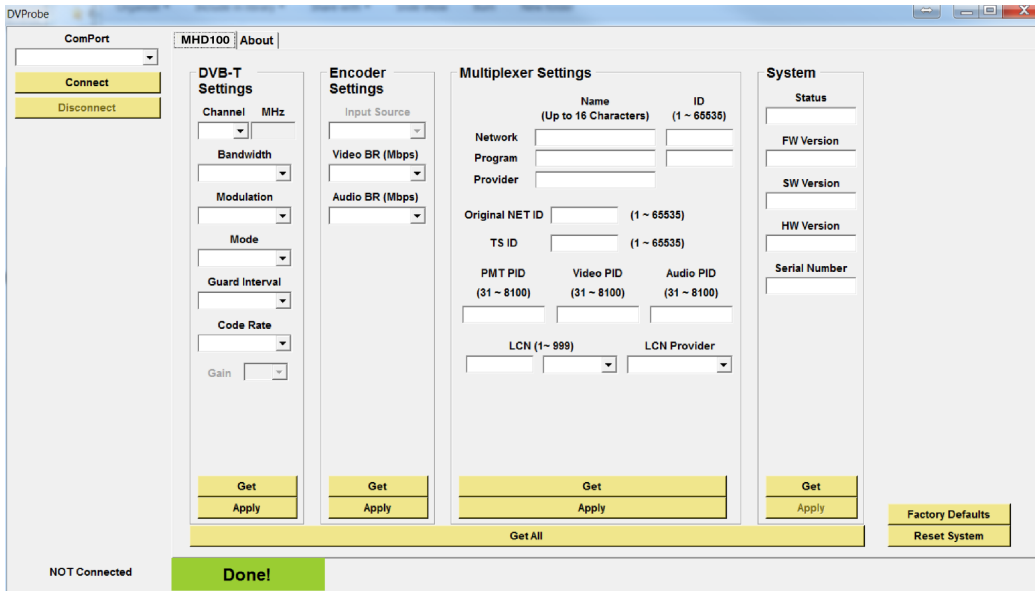

Figure 2. Main screen
5. Run the DVProbe.exe file and the main screen will appear (Figure 2.):